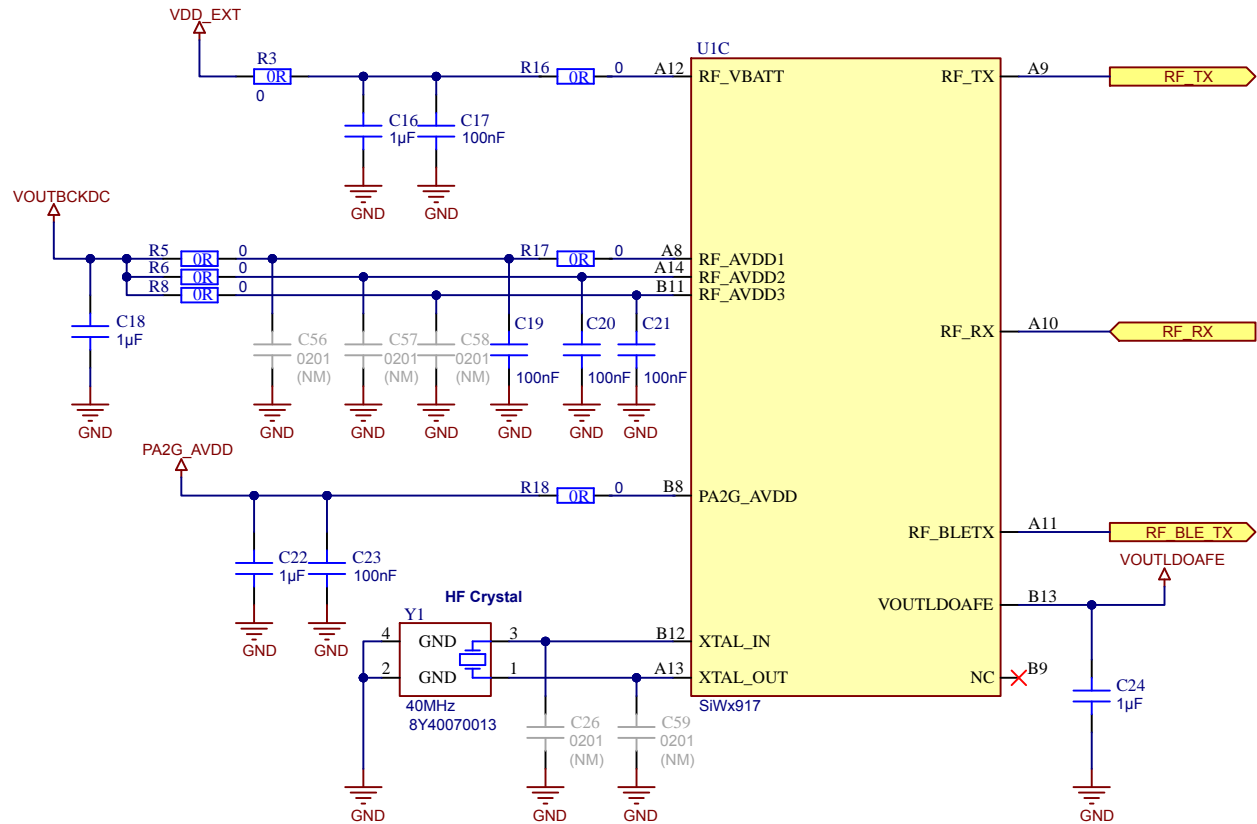
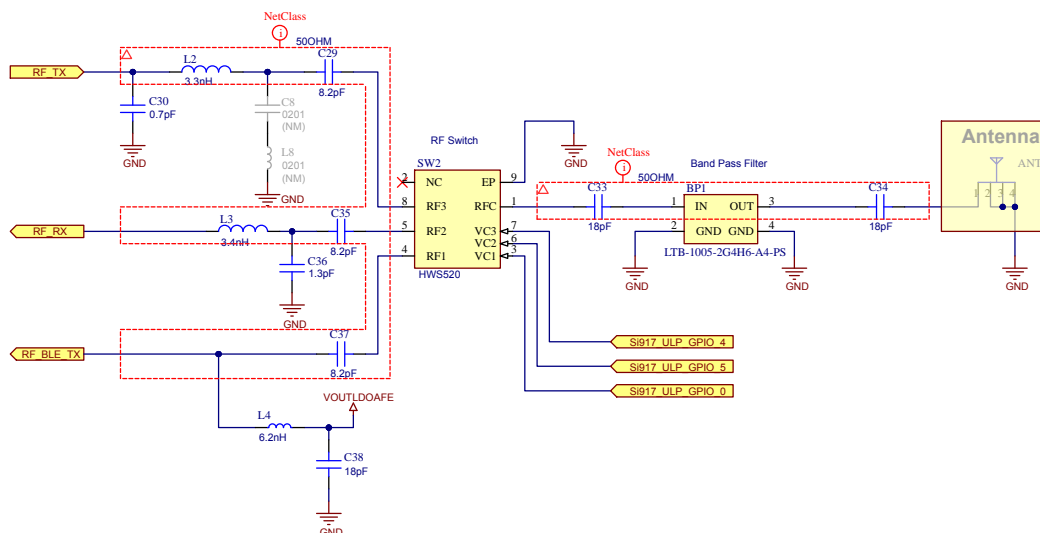
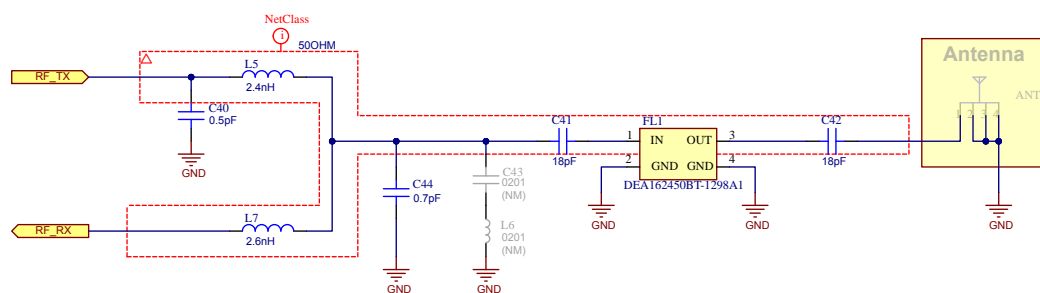

Figure 8.2. RF Power and HF Crystal Support
Figure 8.4. Option 1: RF Frontend with External Switch
Figure 8.5. Option 2: RF Frontend with Internal Switch
14. Apart from the required RF Frontend components shown above in either Figure 8.4 or Figure 8.5, C24 is the mandatory component to be mounted on VOUTLDOAFE pin as shown in Figure 8.2, either for Internal or External switch RF frontend design.